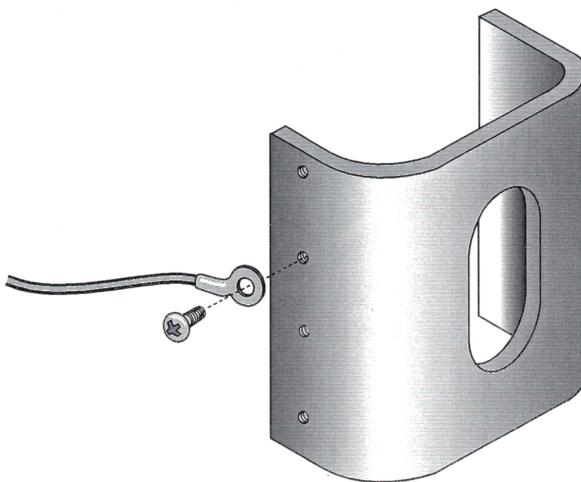

Figure 14 Rack Connection for Chassis Ground Wire
6. Secure the lug on the free end of the chassis ground wire to the rack with the thread-cutting screw, and tighten. See Figure 14.